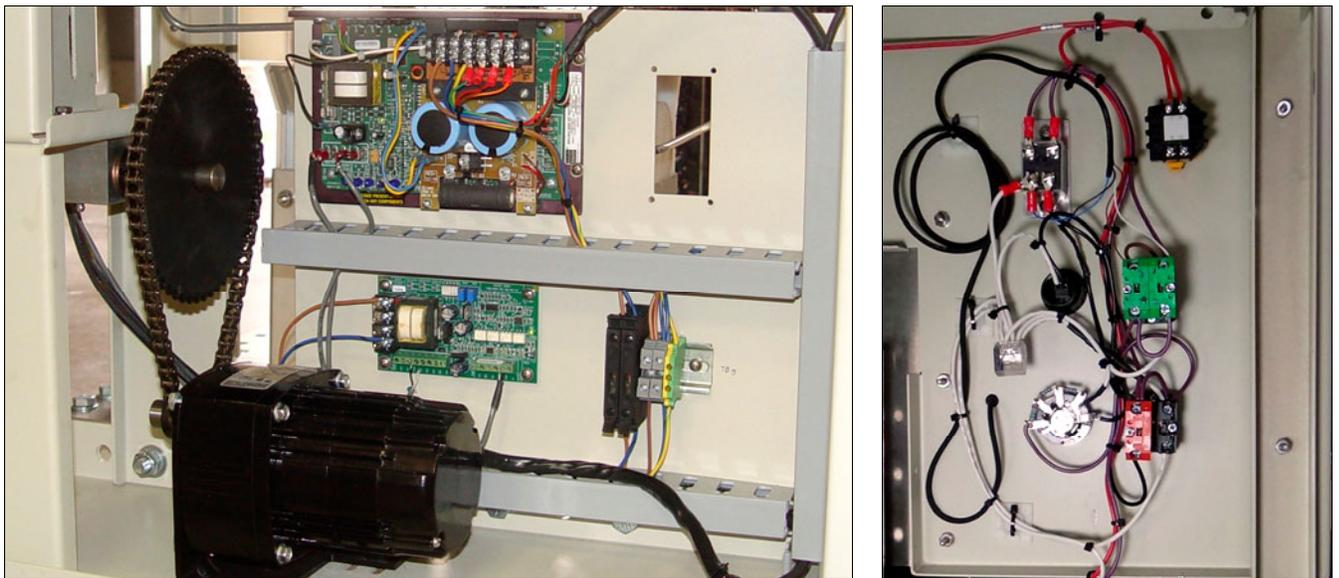

Figure 3-4 MCC or Motor Control panel (L) and SENSAS Product Alert panel (R)
**MCC panel** – Motor control center. Controls transport motor system. Located at furnace exit (Figure 3-4).